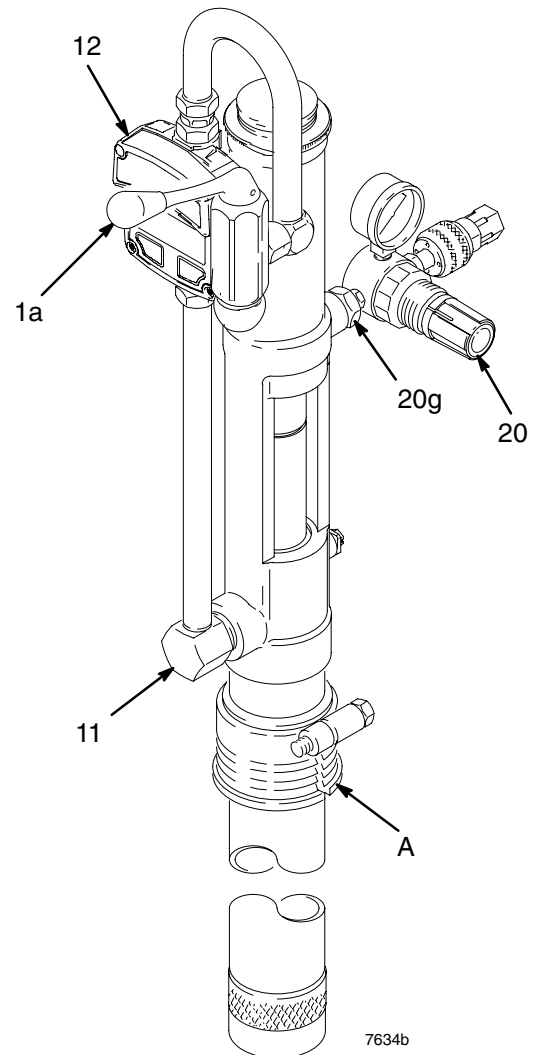

Fig. 1
1. Apply thread sealant to the male threads of the bushing (20g) and install the air regulator (20) at the pump air inlet. See Fig 1.
2. Apply thread sealant to the male threads of the elbow (11) and install the dispense valve assembly at the pump outlet. See Fig 1.
3. Install the pump in the bung hole of a fluid supply container. Screw the bung adapter (A) tightly into the hole. Raise the pump about 1/2 inch (12 mm) from the bottom of the container. Tighten the bung adapter screw. See Fig 1.